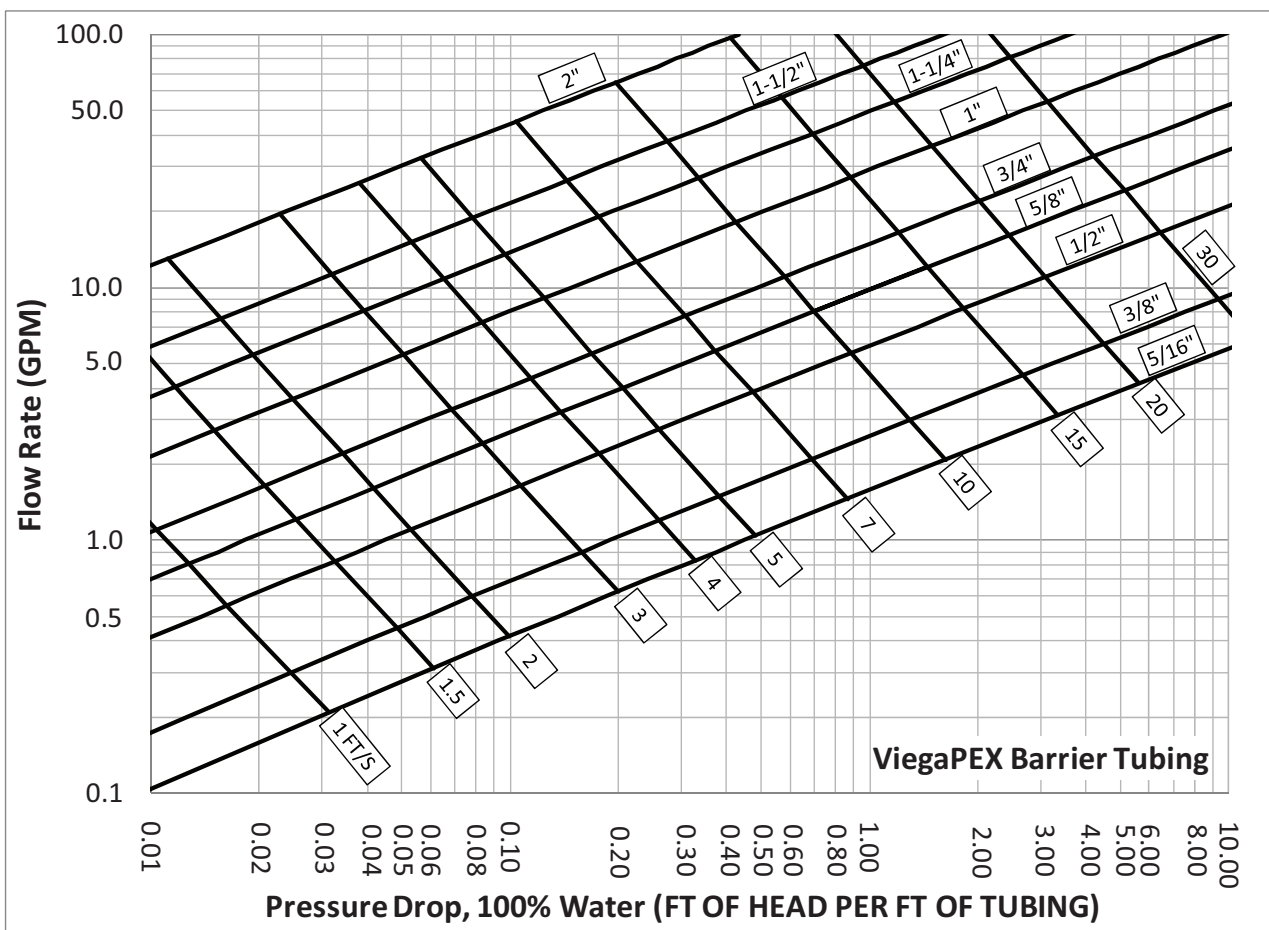

Figure 1-26 Pressure drop of ViegaPEX Barrier tubing based on flow rate and diameter
1. Locate desired 1 gpm flow rate for the tubing on the left vertical axis of Figure 1-26